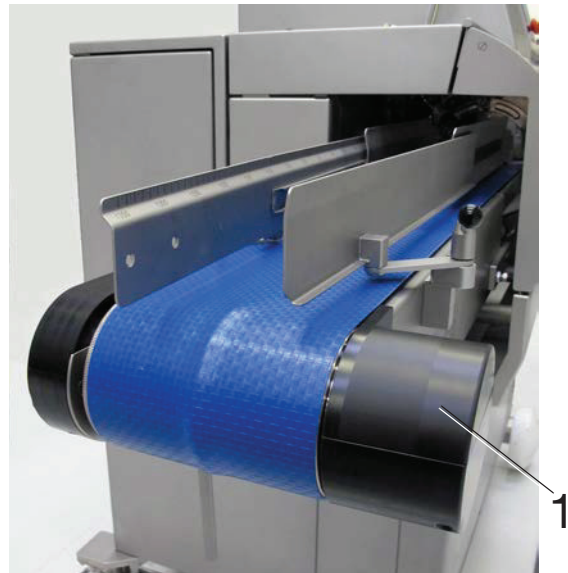

Fig. 1-25 Conveyor drive motor
- Drive motor for conveyor (1, Fig. 1-25),